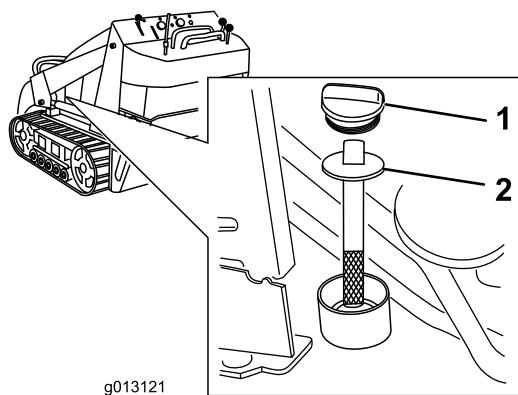

Figure 17
- Clean the area around the filler neck of the hydraulic tank (Figure 17).
- Remove the cap from the filler neck and check the fluid level on the dipstick (Figure 17).